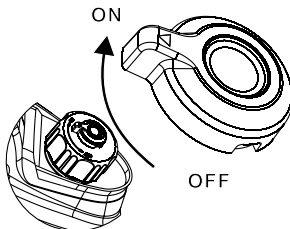

Figure 6: Fuel Tank Vent - iGen2300 Only
2. Turn the fuel tank vent to the **ON** position (iGen2300 only) (see Figure 6).